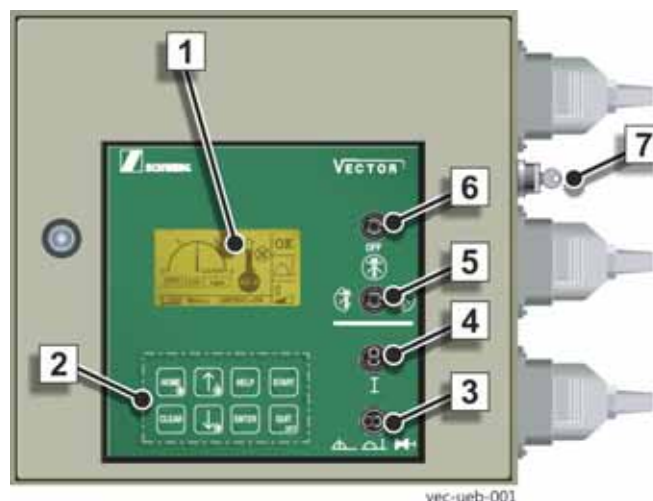

Fig. 168 VECTOR switch cabinet
The display (1) (**Fig. 168**) of the VECTOR control system shows an appropriate error message.